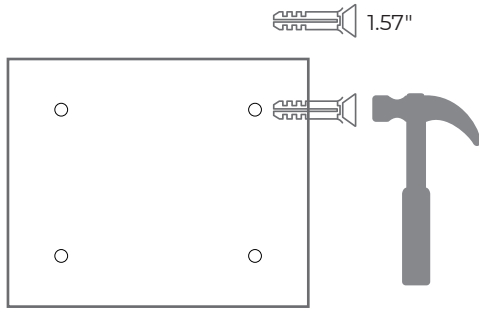

Fig. 5-12
4. Hammer the four plastic expansion anchors into the holes. (See Fig. 5-12)